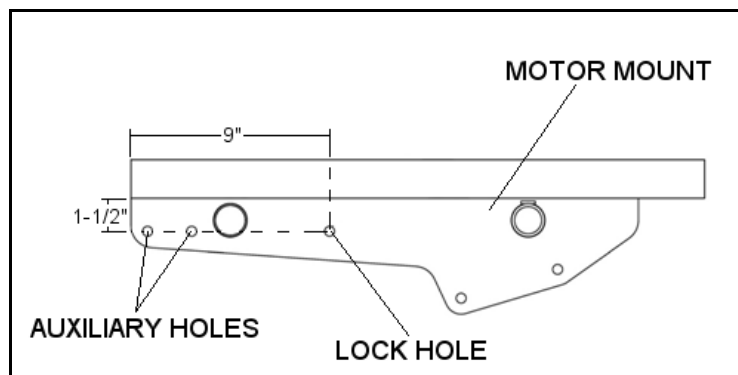
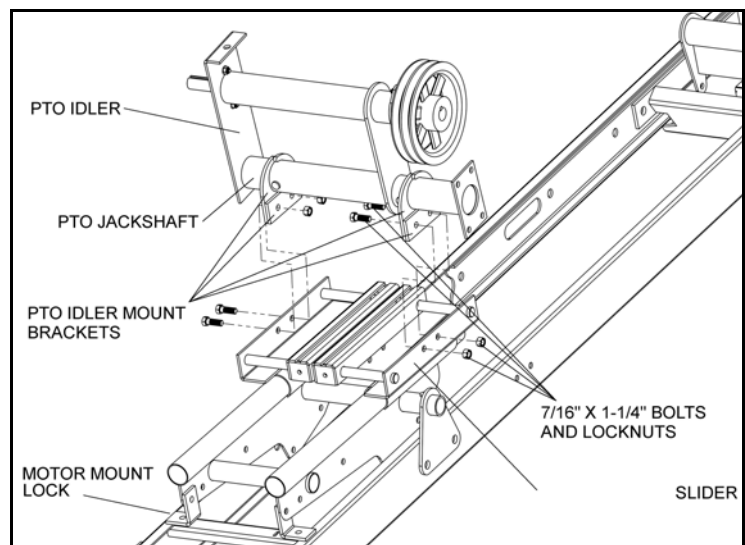

Figure 3.40
Figure 3.42
2. To reinforce motor mount, attach one motor mount lock to the inside of each of the motor mount side plates through the lock hole shown in Figure 3.40 with one 7/16" x 1" bolt and locknut. Motor mount lock shown in Figure 3.42.
- Attach 2 PTO idler mount brackets to PTO jackshaft. Secure PTO idler mount brackets to inside edges of motor mount slider each side of motor mount slider with four 7/16" x 1-1/4" bolts and locknuts (see Figure 3.42).
Important: *On either side of motor mount slider, the PTO idler mount brackets must be arranged opposite of each other as shown in Figure 3.42. This is necessary to ensure a complete closure around the PTO jackshaft.*